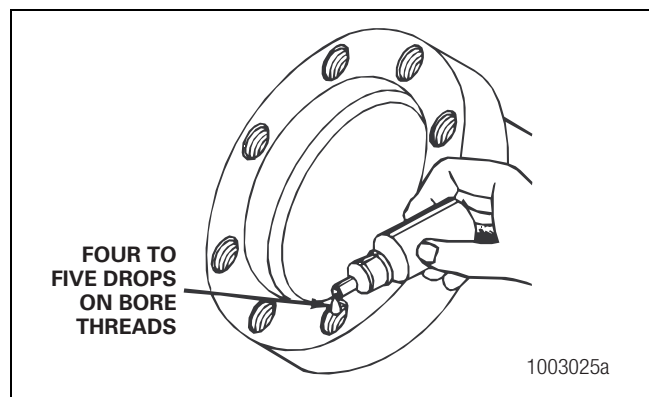

Figure 4.12
2. Apply four or five drops of Meritor liquid adhesive, Loctite® 638 or 680 liquid adhesive or equivalent inside each threaded hole or bore. Do not apply adhesive directly to the fastener threads. Figure 4.12.